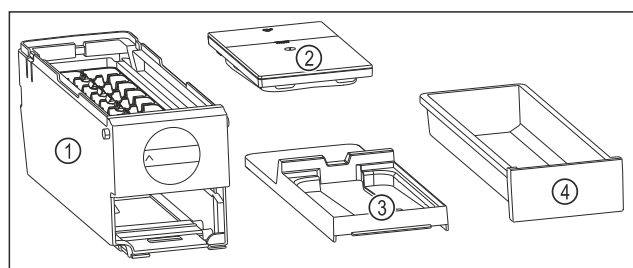

Fig. 90 Components of the EasyTwist-Ice
- ▷ EasyTwist-Ice is dismantled into four parts. (see Fig. 90)
- Only dismantle the EasyTwist-Ice into the components shown. (see Fig. 90)
- Clean the EasyTwist-Ice body Fig. 90 (1) as a whole.